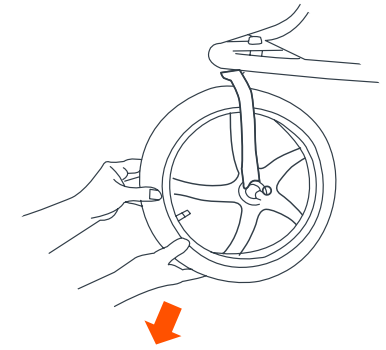

Fig. 20
20) • Lift front end of the stroller up and pull down on wheel to ensure its attached (Fig. 20).